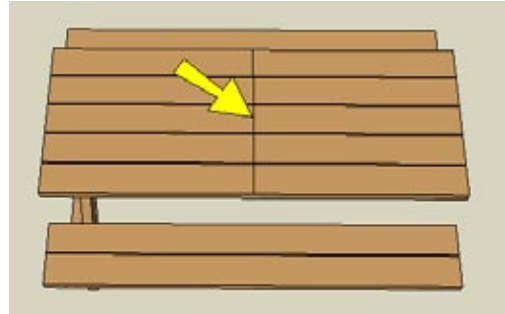

Figure 10-66
9. The new support will be a rotated copy of the original one. To establish the center of rotation, draw a temporary line halfway down the width of the table (Figure 10-66).